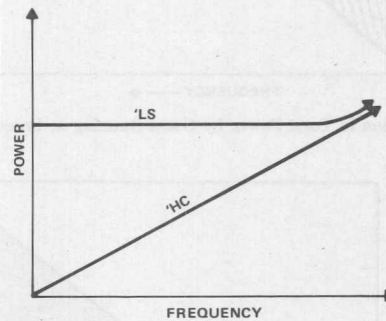
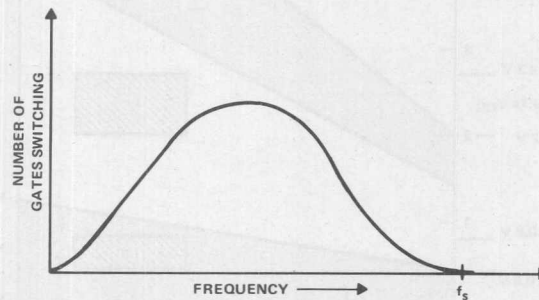
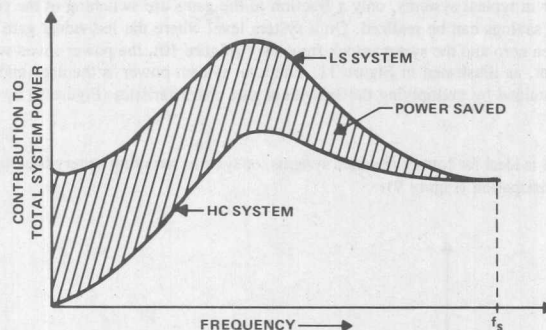

Figure 9. Power Consumed Versus Frequency for High-Speed CMOS Compared to LSTTL
Figure 10. Typical Distribution of Switching Frequencies for Gates within a System with Maximum Clock Frequency,  $f_s$
Figure 11. Contribution to Total Power by Gates Running at Frequencies from 0 to  $f_s$
1. The high-speed CMOS family can operate at speeds comparable to LSTTL. The high-speed CMOS family has ac parameters guaranteed at a supply voltage of 2 V, 4.5 V, and 6 V over the full operating temperature range into a 50-pF load (also, 150 pF for high-current outputs). Note that at the higher operating frequencies, the power consumption is also comparable to LSTTL (Figure 9).
2. Figure 9 also shows that the high-speed CMOS family covers a wide range of applications: low power drain for low-speed systems, and a slightly higher drain for higher speed systems.
As mentioned previously, the power consumption for an individual gate at the maximum speed is comparable to LSTTL. However in typical systems, only a fraction of the gates are switching at the clock frequency; therefore, significant power savings can be realized. On a system level where the individual gate switching frequencies are distributed between zero and the system clock frequency (Figure 10), the power saved with high-speed CMOS can be quite significant, as illustrated in Figure 11. The total system power is the area under each curve. The graph in Figure 11 is obtained by multiplying the individual gate characteristics (Figure 9) by the frequency distribution in Figure 10.
4. High-speed CMOS is ideal for battery-operated systems, or systems requiring battery back-up, because there is virtually no static power dissipation (Figure 9).